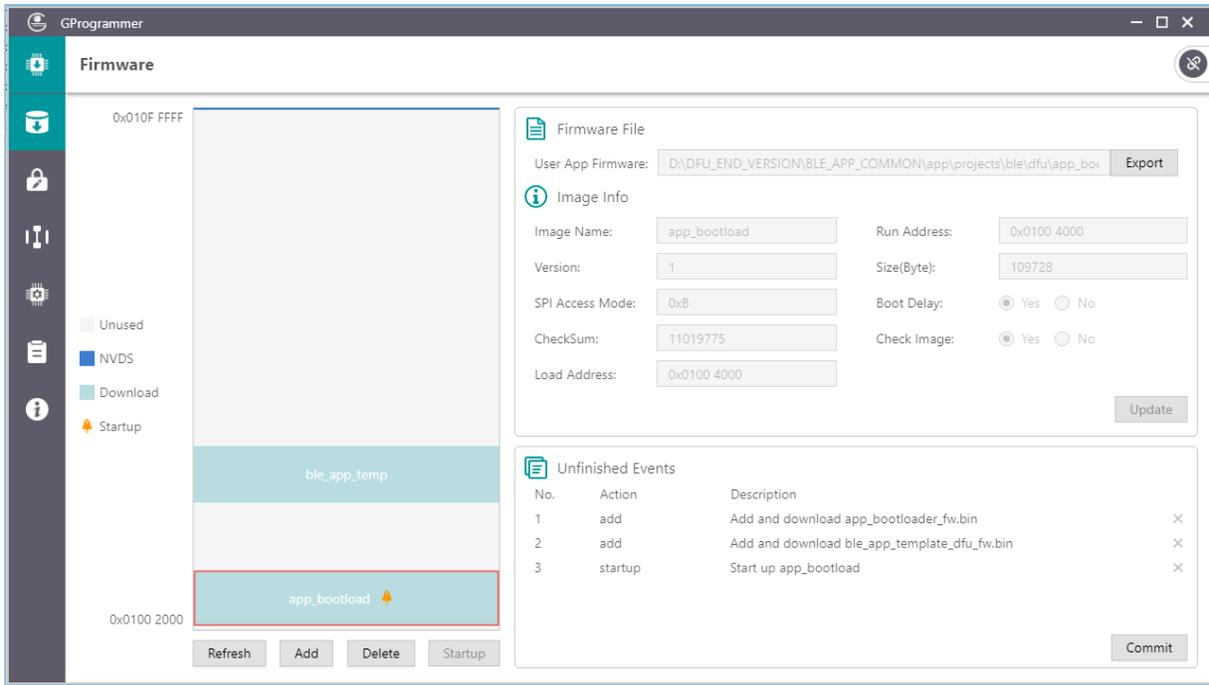

Figure 6-6 Downloading the app_bootloader firmware and the ble_app_template_dfu firmware
- (4) The app_bootloader firmware and the ble_app_template_dfu firmware need to be downloaded to the DFU slave, as shown in Figure 6-6. For details, refer to *GProgrammer User Manual*.